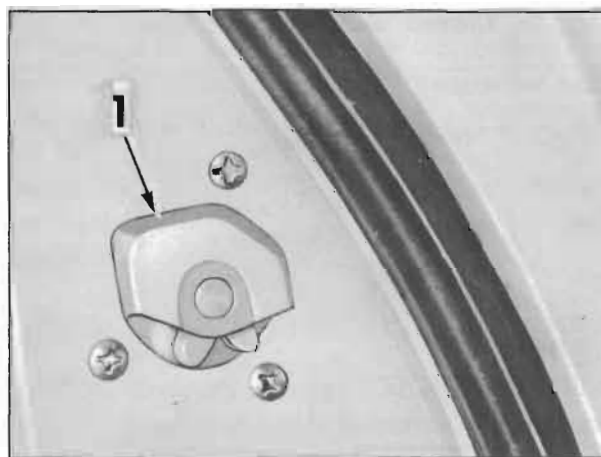

Figure 1-14—Lubrication of Door Lock
15. *Door Lock.* Wipe off dirt and apply a thin coat of stick type lubricant on top surface of lock bolt housing indicated at "1" in figure 1-14.